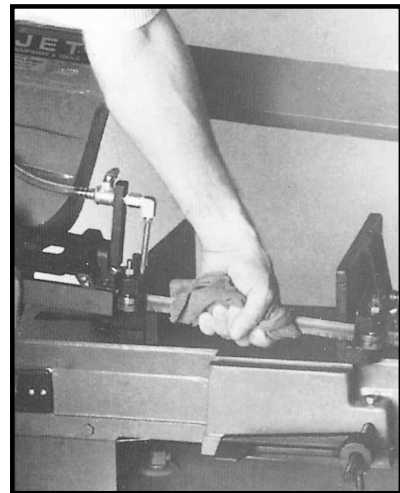

Fig. 15
4. Turn nut (B) to adjust eccentric bearing snug to the blade. Blade should still move up and down freely when grasped as in Fig. 15 .